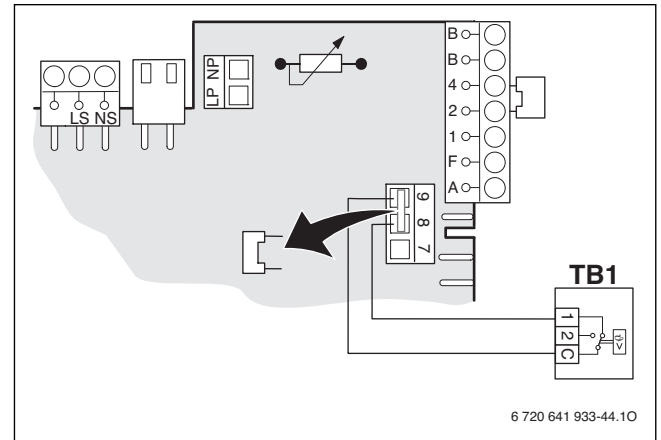

Fig. 39 Electrical wiring TB 1
- ▶ Connect the leads labeled SWITCH CONTACT (yellow) to the TB1 temperature switch (→ Fig. 39, page 33) on the Heatronic.